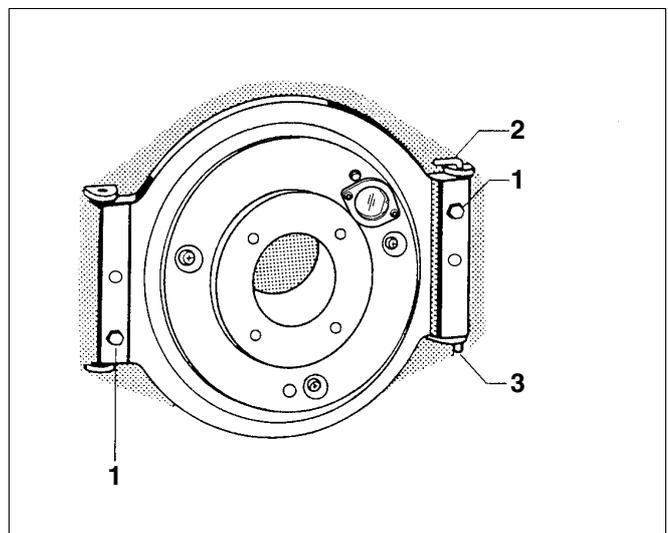

Fig. 21 Burner door
- Re-fit the burner door (Fig. 21, page 20).
- Open the burner door and remove the hinge pins (Fig. 21, **item 2**).
- Change the dowel pin (Fig. 21, **item 3**) in the bottom of the burner door from the r.h. to the l.h. side.
- Hook the burner door with the dowel pin (Fig. 21, **item 3**) in the bottom hinge eye and secure with the hinge pins (Fig. 21, **item 2**) in the upper hinge eye.
- Close the burner door and secure with hexagon bolts (Fig. 21, **item 1**). Torque to 10 Nm; max. 15 Nm.